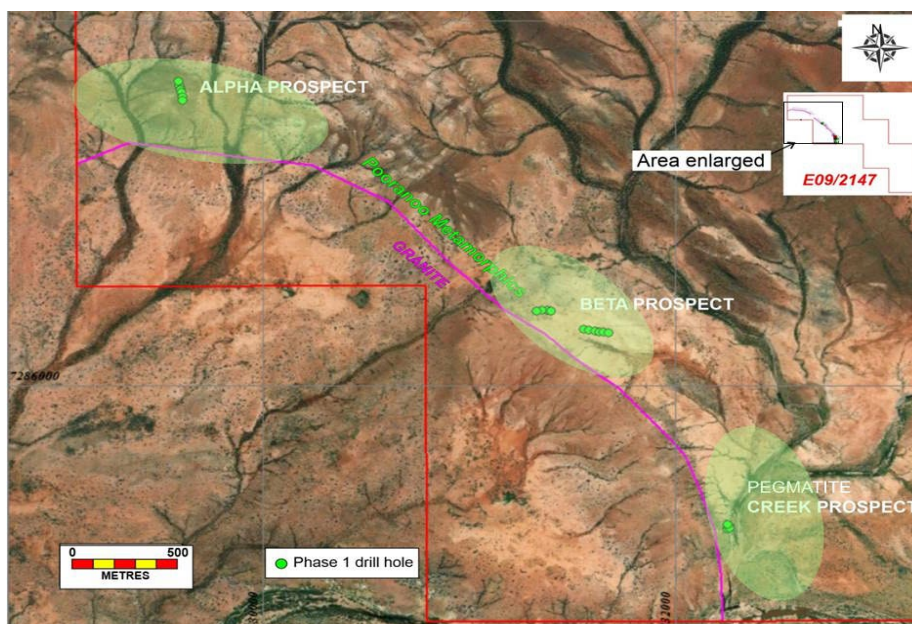
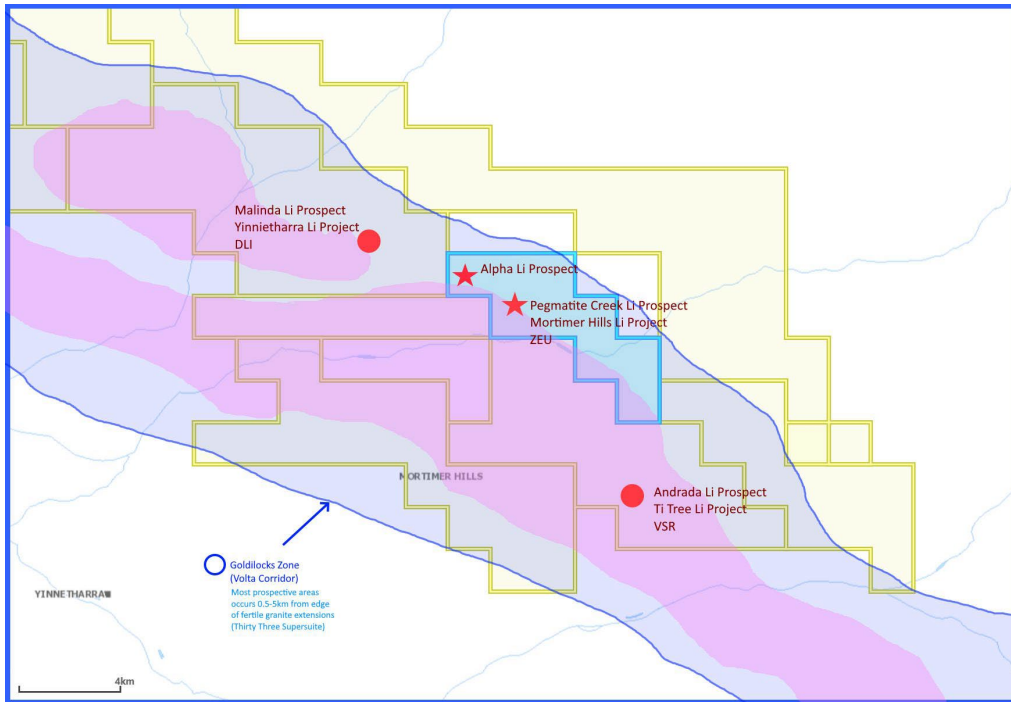

Figure 1 – Locations of Phase 1 drill holes and prospects.
Figure 2 - Locations of Mortimer Hills Li Project (ZEU), Yinnietharra Li Project (DLI) and Ti Tree Li Project (Voltaic Strategic Resources Ltd (ASX: VSR)).
The phase 1 reconnaissance drilling started by testing the Alpha Prospect (Figure 1) on the western Boundary beside the expanding resource of the Yinnietharra Lithium Project (Figure 2) (<https://deltalithium.com.au/our-projects/yinnetharra-lithium/>) being developed by Delta Lithium Limited (ASX: DLI). The Company also drill-tested the central Beta Prospect area and the Pegmatite Creek Prospect area (Figure 1) further to the southeast. Pegmatites were encountered in drilling on all three prospect areas.
**MHC002: 34 m of five pegmatites intercepted from surface with End of Hole ("EOH") at 70 m at Pegmatite Creek Prospect (Refer to Figure 2 and supplementary information in relation to same in the Announcements).**